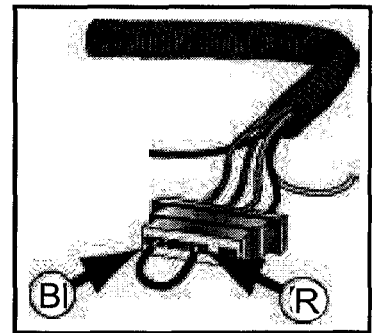

Figure 18 - Jumping power wire to field.
2. Insert the end of a short length of electrical wire to the RED connector slot of the regulator harness and the other end of the wire to the BLUE connector slot. (See **Figure 18**.) This bypasses the regulator and tests the alternator and the harness.